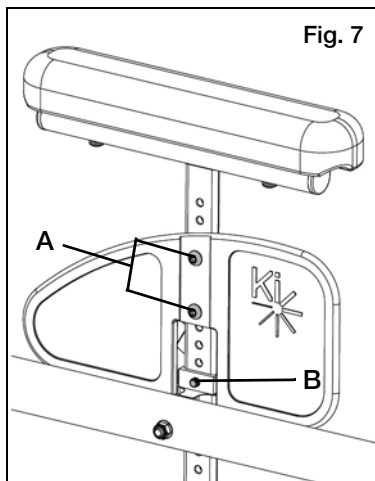

Fig. 7
- b. Remove two 6mm screws from side guards (Fig. 7:A).
- c. Remove M4 screw (Fig. 7:B) from side guard post stop through side guard post but do not pull entirely out. Screw can stay in the lever assembly. Repeat on other arm.
- d. Reset the post stop and lever assembly on side guard post to desired position. Retighten M4 screw (Fig. 7:B). Repeat on other arm.
- e. Place side guard in desired position and replace two 6mm screws (Fig. 7:A) to secure side guard in place. Tighten two 6mm screws. Repeat on opposite arm.